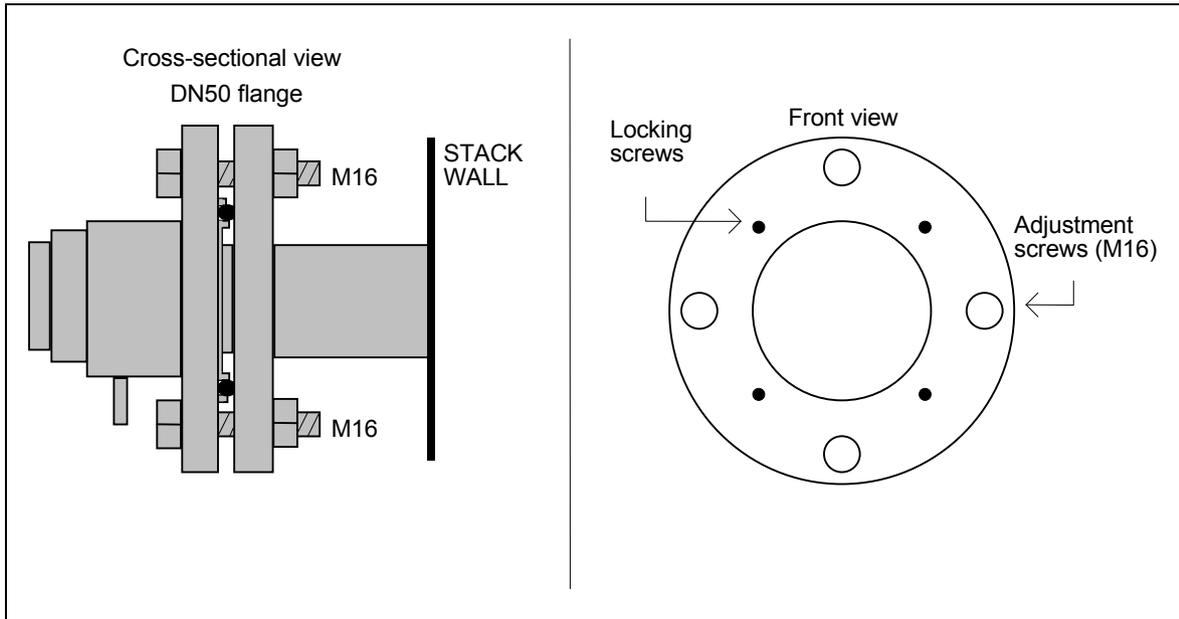

Figure 3-4: Alignment mechanism details
1. Install transmitter alignment and purging unit (5) onto the stack flange with 4 pcs. M16x60 bolts (ref. Figure 3-4). All 4 bolts on either side must be tightened firmly to compress the large O-ring. Adjust the 4 locking screws prior to mounting the unit, to assure good alignment of the unit and a uniform compression of the O-ring.
4. Put the window adapter ring (4) on the alignment unit. Make sure that the O-ring on the alignment unit is tight and greased. The guiding pin on the alignment unit must fit the hole in the adapter ring.
3. Mount the red laser alignment jig on the transmitter side using the supplied mounting nut and locate the laser beam on the receiver side using the target. Loosen the adjustment screws shown in Figure 3-4 on the transmitter unit purging flange and move it carefully from side to side and up and down to locate the laser beam in the receiver hole. (You may need two persons.)
2. Disconnect the red laser alignment jig from the transmitter side and mount it on the receiver side. Locate the laser beam on the transmitter side. Loosen the adjustment screws shown in Figure 3-4 on the receiver unit purging flange and move it carefully from side to side and up and down to locate the laser beam in the transmitter hole. (You may need two persons.)